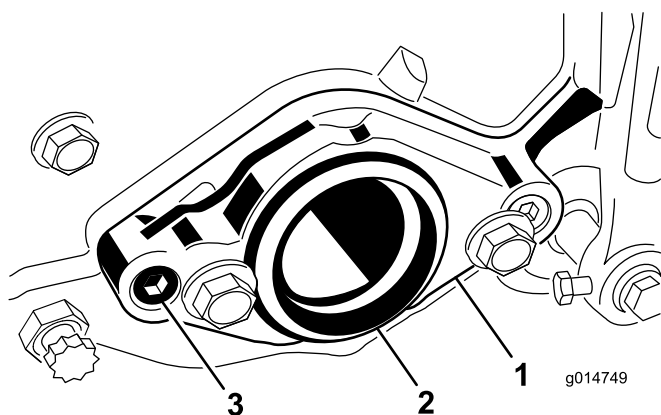

Figure 8
2. On the right end of the cutting unit, remove the plastic plug from the bearing housing (Figure 8).
3. Remove the (2) Allen head screws securing the motor mount to the right end of the cutting unit. Remove the motor mount (Figure 8).
6. Install the motor mount to the left end of the cutting unit with the (2) Allen head screws previously removed in Figure 8. Torque screws to 12-15 ft-lbs. (16-20 N-m).